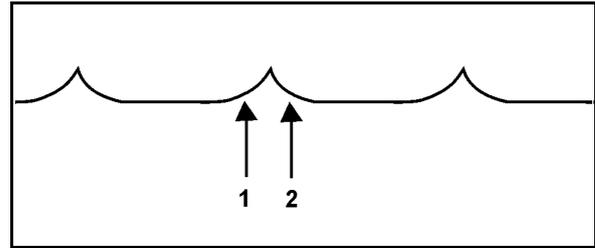

Fig. 22
- Fig. 22: Correct setting of disc rows.